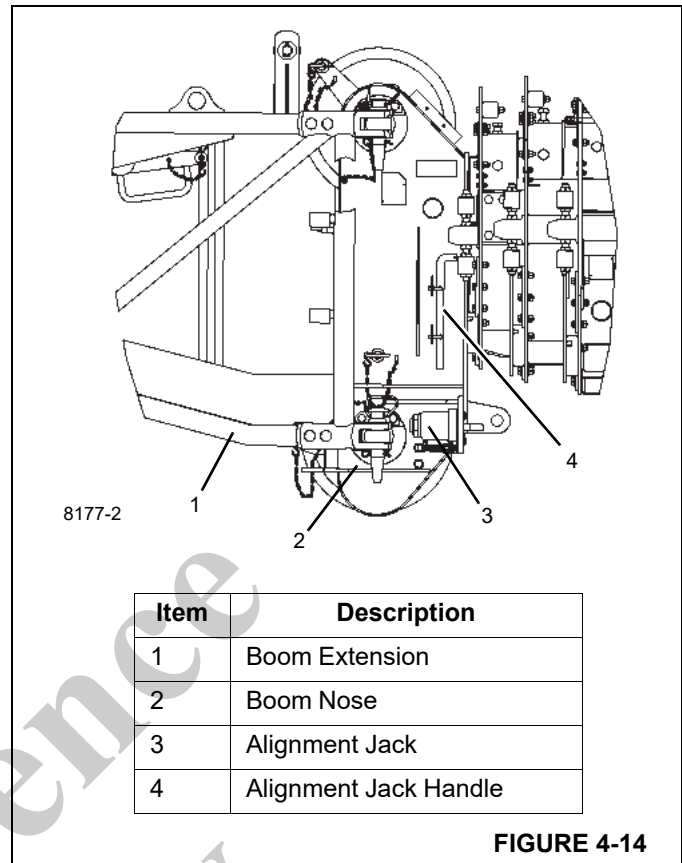

FIGURE 4-14
20. Using the jack handle (4, Figure 4-14) stored on the left side of the boom nose, extend boom extension alignment jack (3, Figure 4-14) until the lower left anchor and attachment fittings of the boom extension base section and boom nose are aligned. Install attachment pin and secure with retaining clip.